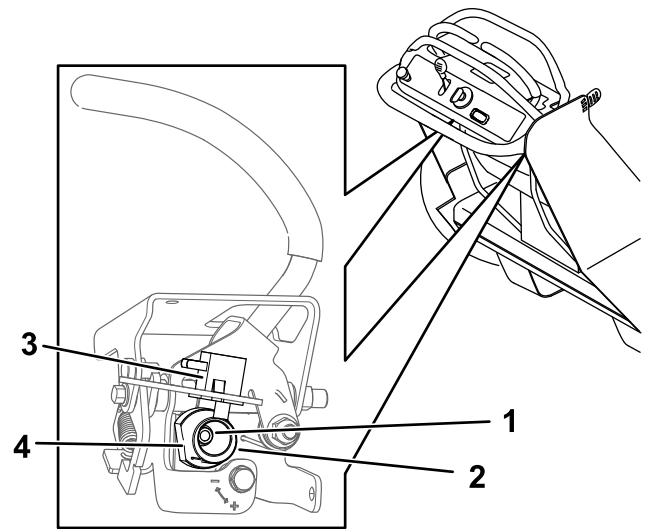

Figure 61
5. Loosen the nut holding the cam for the motion-control lever you are adjusting (Figure 61).
6. Adjust the cam until it aligns with the other motion-control lever and tighten the nut for the cam (Figure 61).
Important: Do not rotate the flat of the cam past vertical. The operator-presence control switch should never contact the flat of the cam (Figure 61).